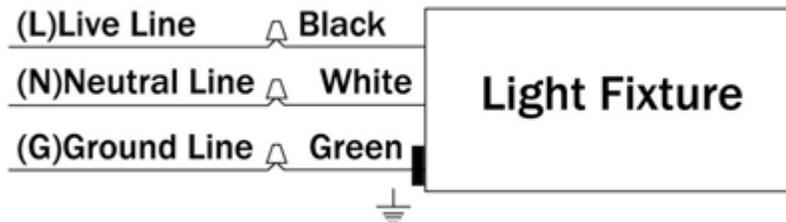

FIG 3
4. Complete the wiring to the power source and ground. (Fig 3)